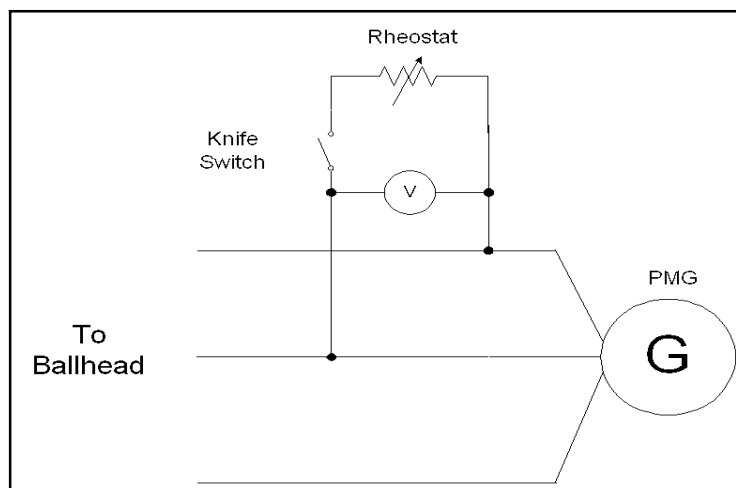

Figure 10.—Schematic for demagnetizing PMG.
- (g) If demagnetizing is required, place a resistance in series with a switch across two of the three phases. A voltmeter should be connected to these phases to monitor voltage (figure 10). Start with approximately 200 ohms resistance and close the switch momentarily with the unit running at rated speed. The measured voltage will drop when the switch is closed and then return to a value less than the original when the switch is opened. If the voltage is still higher than the rated voltage, close the switch again. If the voltage is dropping in very small increments, the rheostat resistance can be decreased or the time the switch is closed can be increased. Either will result in larger demagnetizing steps and speed up the process. The voltage should be monitored closely during the demagnetizing process. If it falls below 80 percent of rated voltage, it will have to be remagnetized.